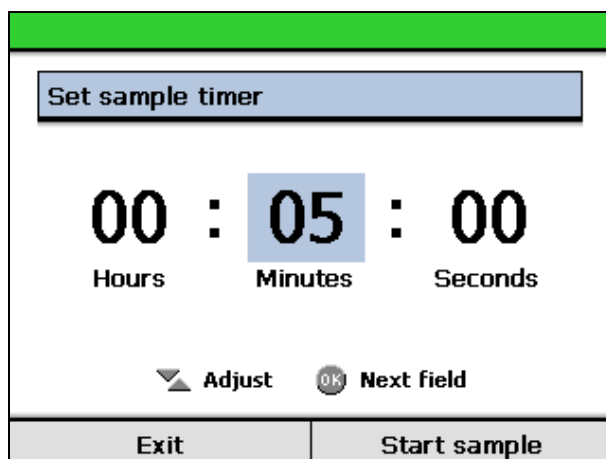

Figure 37 - Timed sample setup
- From the main menu select 'Timed sample' then select 'Start new sample...'. The timed sample setup screen will be shown (Figure 37).